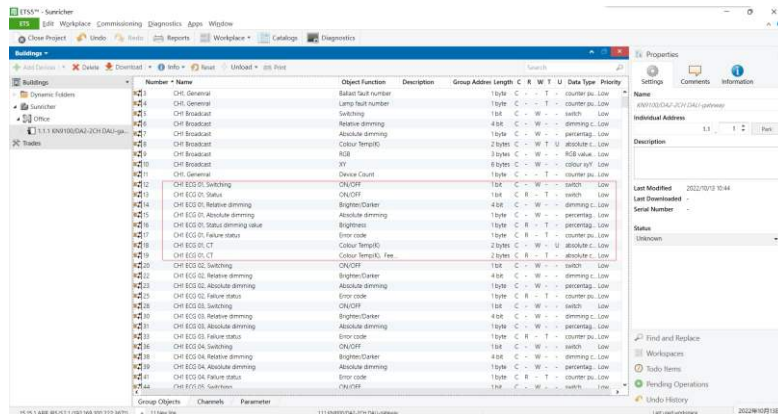

Figure 40
**If ECG 01 device type parameter is configured as CT, Group Objects are as shown in Figure 40:**